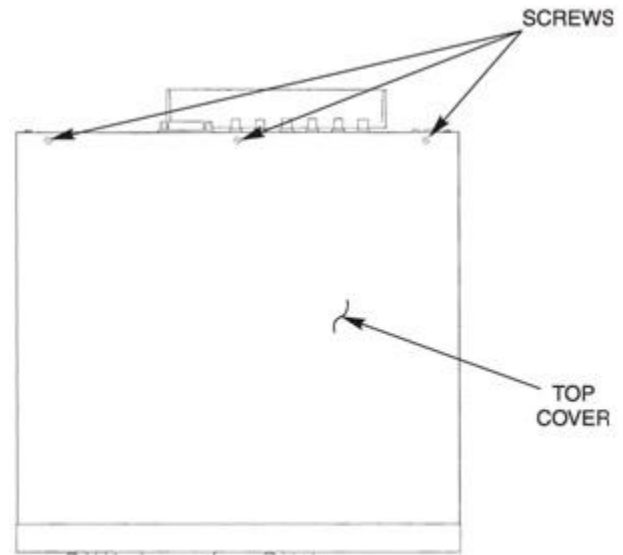

Figure 5-1 Removing Covers
- b. Remove the three screws located at the rear of the cover (Figure 5-1) and slowly lift the cover up and to the rear.